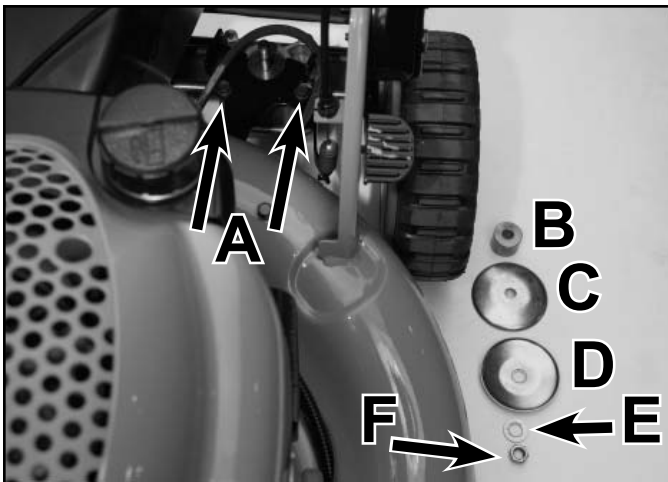

Fig 103
15. Remove the nut, washer, 2 pulley halves, and spacer from the transmission input shaft. Remove 2 screws securing the belt guide to the transmission (Fig. 103).